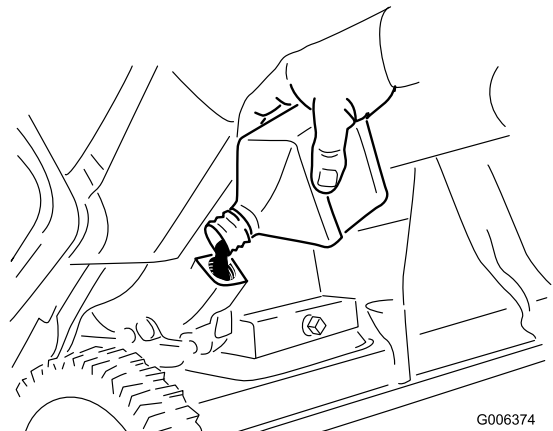

Figure 31
8. With the machine in the operating position, **carefully** pour oil into the oil-fill hole to the point of overflow (Figure 31).